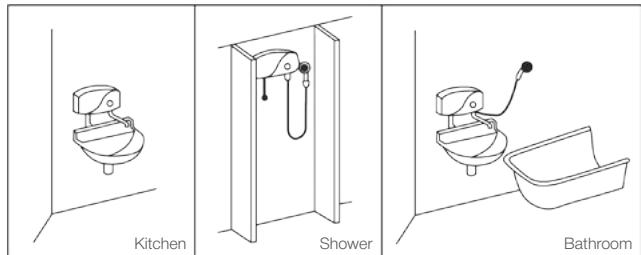

Fig. 1
2. Possible installation options of the water heater are given in Fig.1.